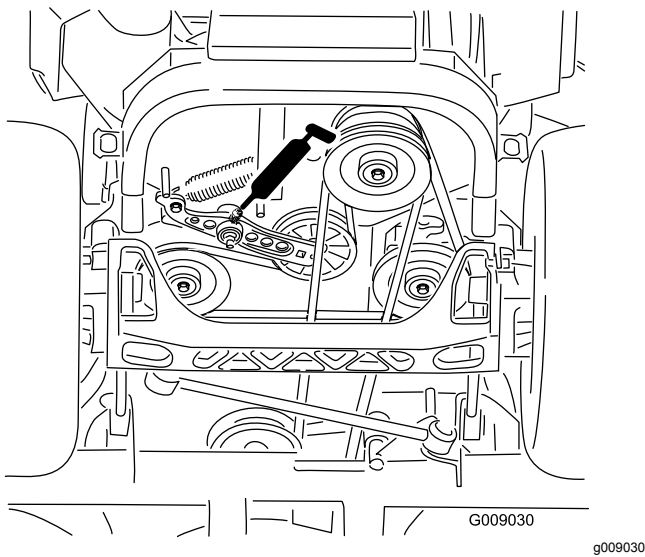

Figure 47
5. Grease the drive-belt-idler arm (Figure 47).